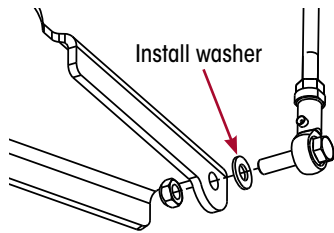

Figure 7: Washer Placement Rose Joint HCV Lower Link to Bracket
- Check that the link is the right length by fitting it into the mounting holes top and bottom. Adjust rod length if necessary. For rose joint linkage rods, install washer between link rod and mountings to ensure mount will not bind up throughout suspension travel. Refer Figure 7 and Figure 11.